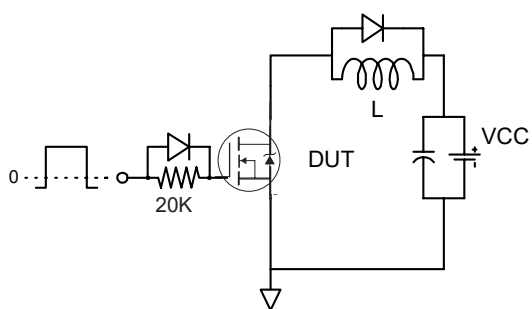

Figure 23a: Gate Charge Test Circuit
3. Equation below based on circuit and waveforms shown in Figures 23a, 23b.